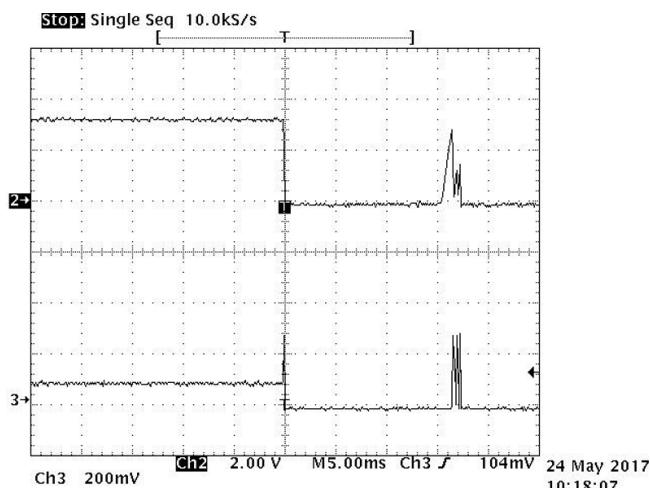
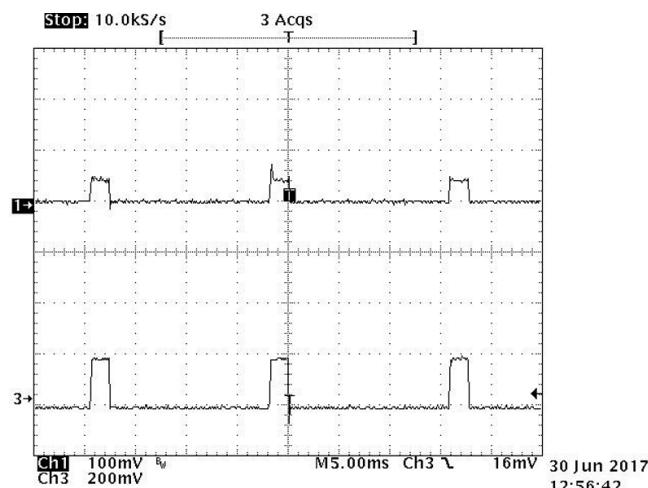

図 18. Overcurrent Protection
図 19. Short-Circuit Protection
The upper curve (1) is the output voltage with an oscilloscope in DC-coupling mode with 2 V/div (図 18) and 100 mV/div (図 19). The lower curve (2) is the output current with the current probe of 100 mV/A with 200 mV/div.
As shown in 図 18 and 図 19, when the current is rising to the current limit level, the device enters overcurrent protection as described in the TPS561201 datasheet \(SLVSC95\). After waiting the pre-programmed time, the device tries to restart. Once the fault condition is removed, the device starts normally.